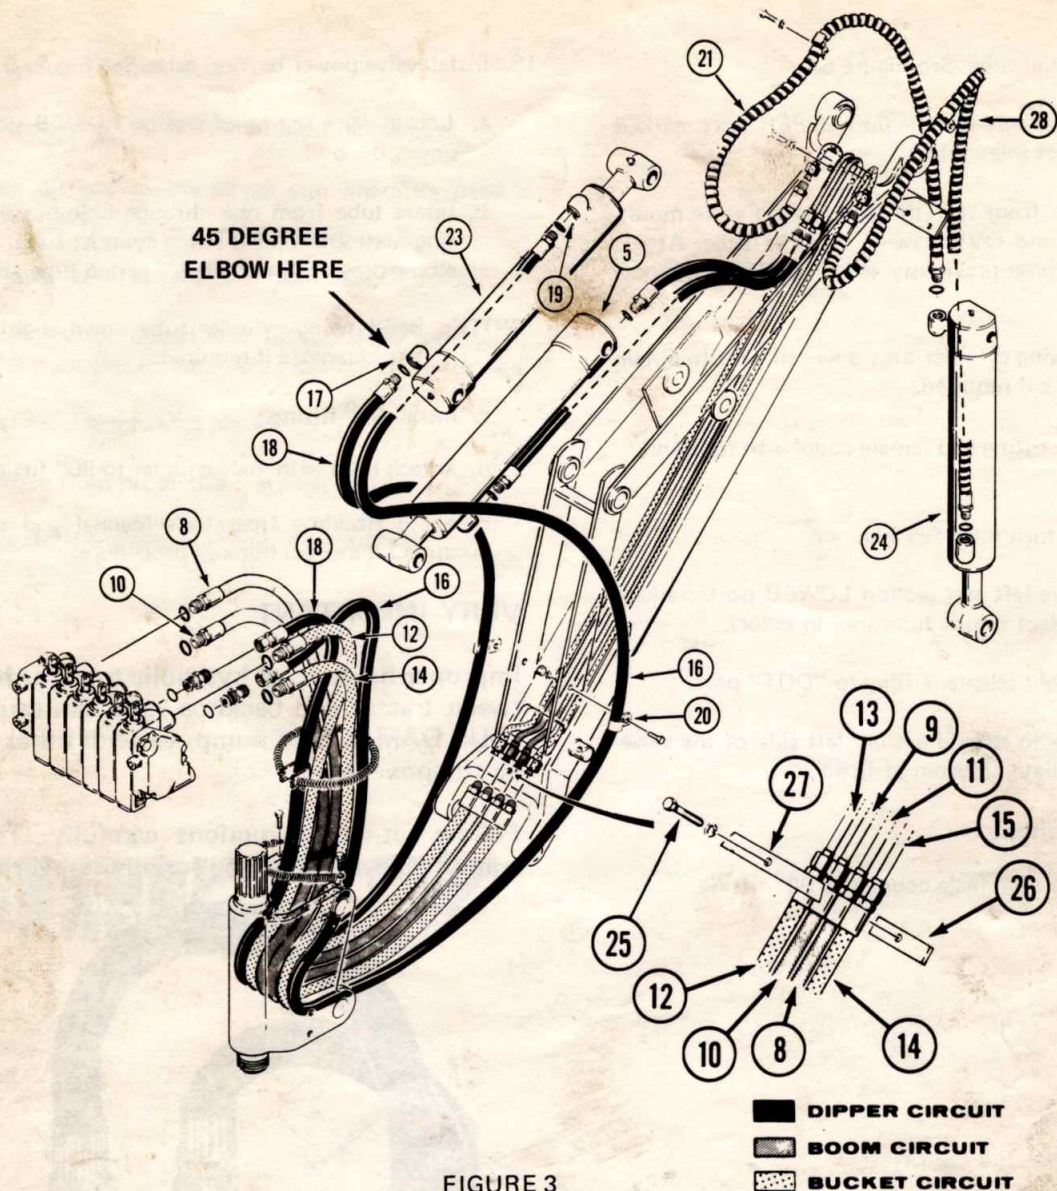

FIGURE 3
1. Identify 8 hoses. See Figures 3 and 4 for hose and valve work port identification.
- a. 2-metal sheathed hoses for bucket circuit, one 42" (1060 mm) long (21), one 61" (1550 mm) long (28), to be connected between tubes at dipper pivot end of boom and bucket cylinder.
- b. 2-long hoses - for dipper circuit one 58" (1470 mm) long (18) - one 75" (1900 mm) long (16) Coded dark black on Figure 3.
- c. 2-sets (total 4) shorter hoses, 1st set - for boom circuit one 35" (890 mm) long (10) - one 38" (970 mm) long (21) Coded dark grey on Figure 3.
2nd set - for bucket circuit one 35" (890 mm) long (14) - one 38" (970 mm) long (12) Coded light grey on Figure 3.
2. NOTE ROUTING OF HOSES IN FIGURE 3.
Note carefully the routing of the six hoses to dipper, boom and bucket circuits through the swing post as shown in Figure 3. Hoses must be routed in this manner to prevent chafing and other damage.
4. Install elbow fitting in dipper (crowd) cylinder. See Figure 3.
- a. Install the 45 degree elbow in the dipper (crowd) cylinder piston end port. Figure 3, Reference 17.
- b. Position the elbow to eliminate interference of the hose (18) when the backhoe is swung fully to the left.
5. Install dipper circuit hoses. See Figures 3 and 4.
- a. Attach the O-ring end of hose 58" (1470 mm) long hose (18) to left hand (piston end) port (17) of dipper cylinder.
- b. Attach the O-ring end of hose 75" (1900 mm) long hose (16) to (rod end) port (19) of dipper cylinder.
- d. Route dipper hoses as shown in Figure 3 and attach flare ends to adapters at valve section.
1. 58" (1470 mm) long hose (18) from piston end to upper port.
2. 75" (1900 mm) long hose (16) from rod end to lower port.
6. Install boom circuit hoses. See Figures 3 and 4.
- a. Attach the O-ring end of hose 38" (970 mm) long hose (8) to upper work port of boom valve section.
- b. Attach the O-ring end of hose 35" (890 mm) long hose (10) to lower work port of boom valve section.
- c. Route boom hoses as shown in Figure 3.
7. Install bucket circuit hoses. See Figures 3 and 4.
- a. Attach the O-ring end of 38" (970 mm) long hose (12) to upper work port of bucket valve section.
- b. Attach the O-ring end of 35" (890 mm) long hose (14) to lower work port of bucket valve section.
- c. Route bucket hoses as shown in Figure 3.